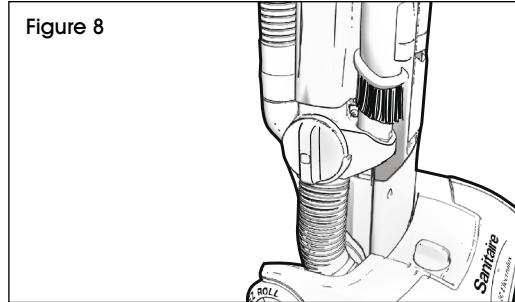

Figure 8
- The cleaner easily converts to attachment cleaning. The cleaner should be locked into the upright position. Remove the wand assembly and rotate the suction control valve towards the back of the cleaner to the hose position. (See Figure 8)